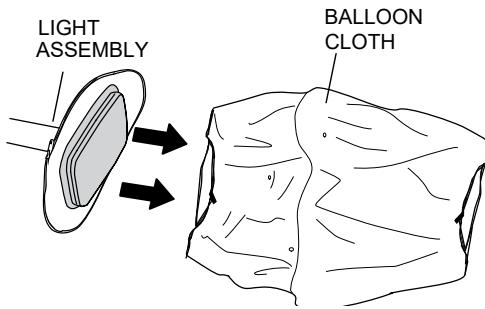

Figure 34. Removing the Balloon Cloth
2. Slide the old or worn balloon cloth (Figure 34) over the top of the light assembly.